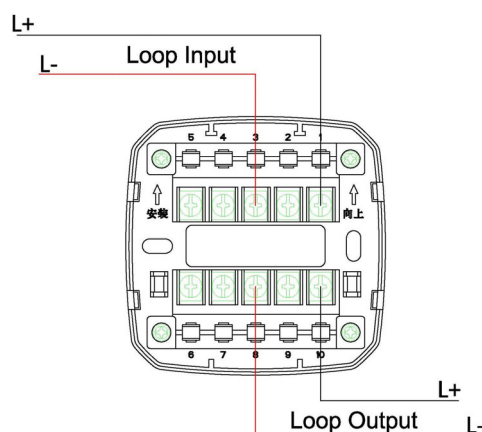

Fig.3
3. Loop wiring is shown in Fig.3